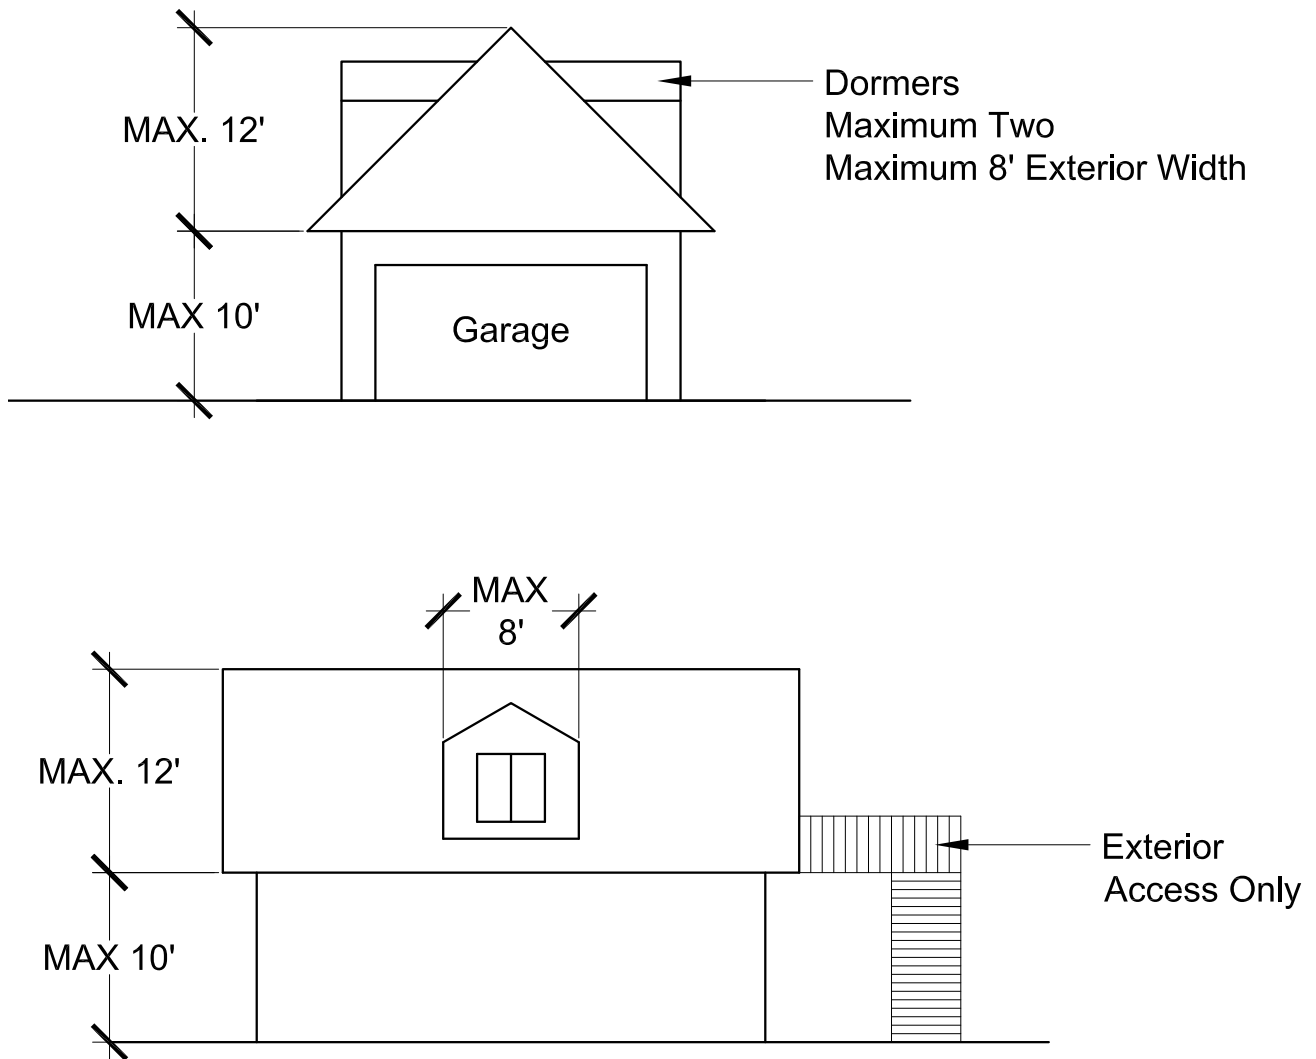

**Figure 3**
**Please see Figure 3 for reference.**